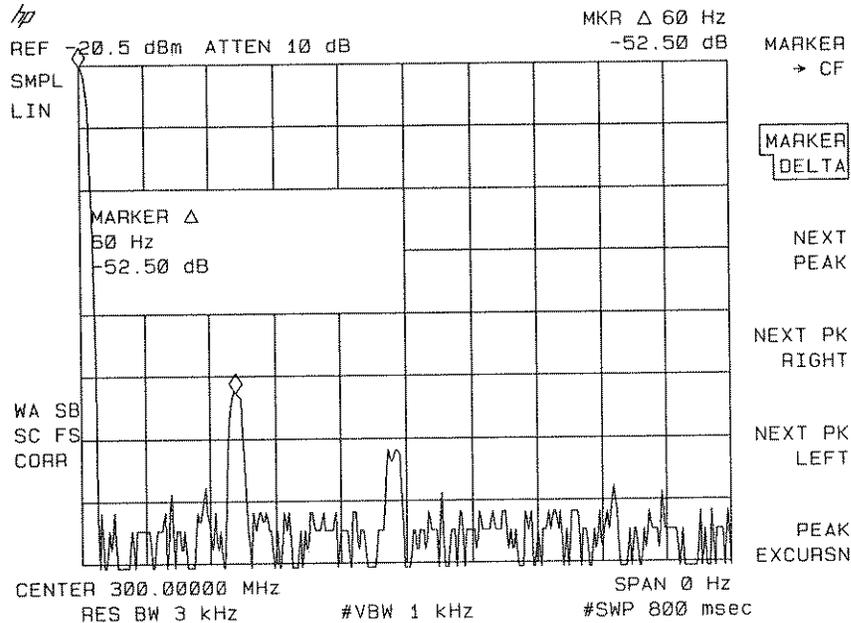

Figure 6-29. Using the FFT Function
10. A marker is automatically placed on the carrier at the 0 Hz reference (at the left edge of the graticule). Press **MARKER DELTA** and turn the knob to the modulation to determine the frequency and amplitude difference from the carrier. See Figure 6-29.
The results of the FFT function are displayed on the analyzer screen. The carrier appears at the left edge of the graticule with the modulation sidebands, and any distortion appearing along the horizontal graticule. The left edge of the graticule represents 0 Hz relative to the carrier. The right edge represents the maximum FFT frequency calculated, which is 200 divided by the sweep time, or 250 Hz in Figure 6-29. The amplitude relationships among the carrier, sidebands, and distortion components are the same as they would be if the components were displayed with swept-tuned operation in log mode, 10 dB per division.